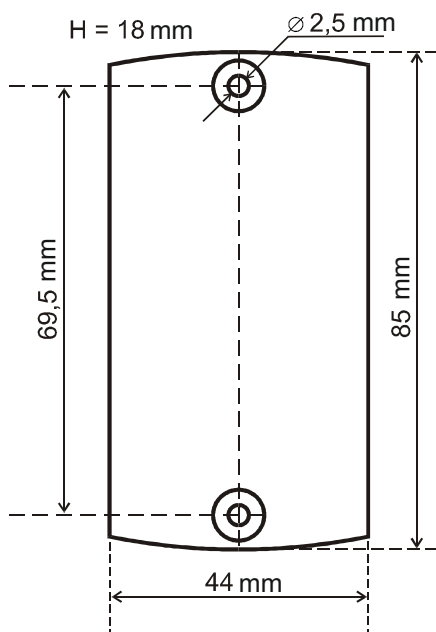

Fig. 1. Reader Dimensions.
- Mark and drill the mounting holes (Fig. 1);